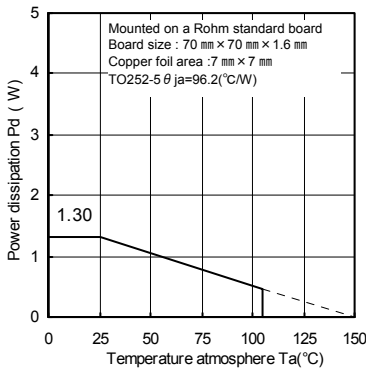
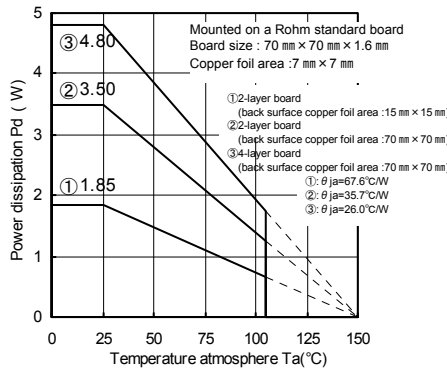
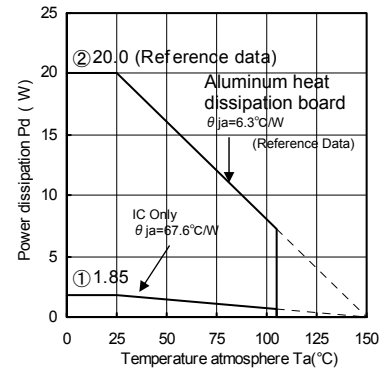

Fig.15
Fig.16(Reference data)
Fig.17
When using at temperatures over Ta=25°C, please refer to the heat reducing characteristics shown in Fig.15 and Fig.16. The IC characteristics are closely related to the temperature at which the IC is used, so it is necessary to operate the IC at temperatures less than the maximum junction temperature Tjmax.
Fig.15 and Fig.16 shows the acceptable loss and heat reducing characteristics of the TO252-5 package. Even when the ambient temperature Ta is a normal temperature (25°C), the chip (junction) temperature Tj may be quite high so please operate the IC at temperatures less than the acceptable loss Pd.
The calculation method for power consumption Pc(W) is as follows :(Fig.16③ and Fig.17)
$$Io \leq \frac{2.496 - 10 \times Ib}{5} \quad \left[ \begin{array}{l} \text{Fig.16③: } \theta_{ja}=26.0^{\circ}\text{C/W} \rightarrow -38.4\text{mW}/^{\circ}\text{C} \\ 25^{\circ}\text{C}=4.80\text{W} \rightarrow 85^{\circ}\text{C}=2.496\text{W} \end{array} \right]$$
$$Io \leq \frac{10.4 - 25 \times Ib}{20} \quad \left[ \begin{array}{l} \text{Fig.17(Aluminium heat dissipation board)} \theta_{ja}=6.3^{\circ}\text{C/W} \rightarrow -160\text{mW}/^{\circ}\text{C} \\ 25^{\circ}\text{C}=20\text{W} \rightarrow 85^{\circ}\text{C}=10.4\text{W} \end{array} \right]$$